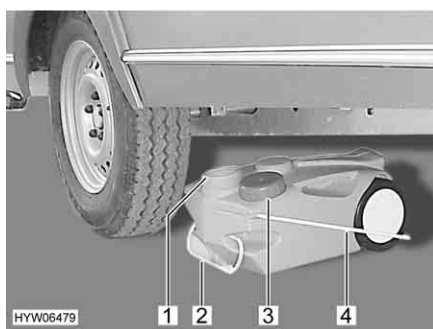

Fig. 150 Waste water tank, mobile
- Use the cap (Fig. 150,3) to close the opening of the waste water tank (Fig. 150,1).
- Use the handle (Fig. 150,2) to pull out the waste water tank.
- Fold the carrying handle (Fig. 150,4) up and upright the waste water tank.